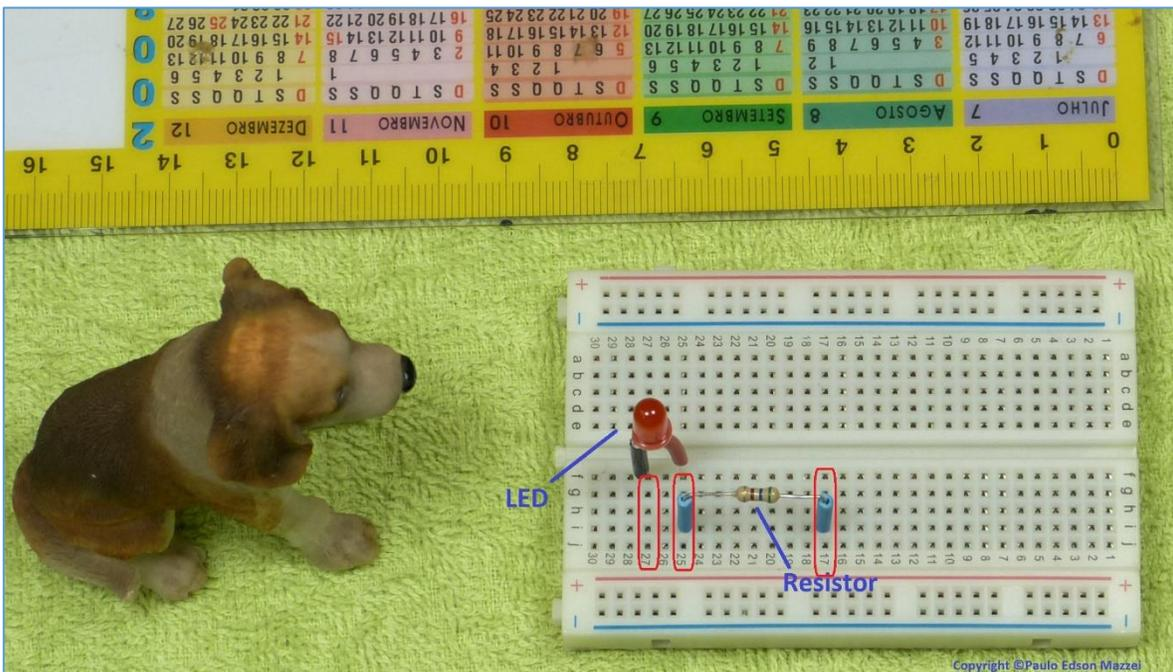

Figure 78 – Assembling of the LED and resistor in the Protoboard. the Beagle is a mere observer.
- g. Mount the resistor and LED on the Protoboard, as shown in **Figure 78**. Note that the Protoboard contacts (rows numbers 17, 25 and 27) are interlocked vertically. In this way, the positive terminal of the LED (red) is connected to one of the terminals of the 560 Ω resistor in the contact row number 25.